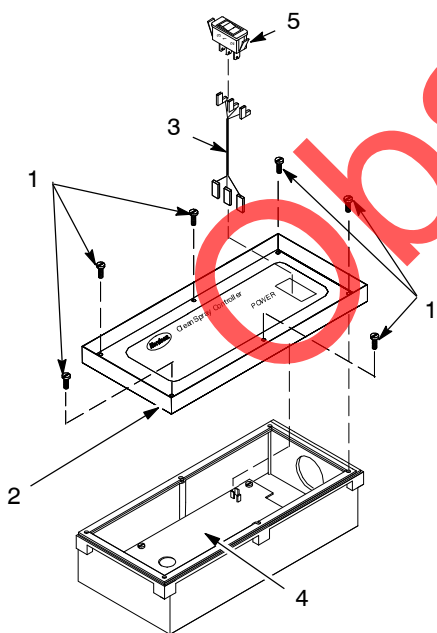

Figure 12 Power Switch Replacement
1. See Figure 12. Remove the screws (1) securing the cover (2).
2. Disconnect the power switch wire harness (3) from the circuit board (4).
3. Remove the power switch (5) from the front panel.